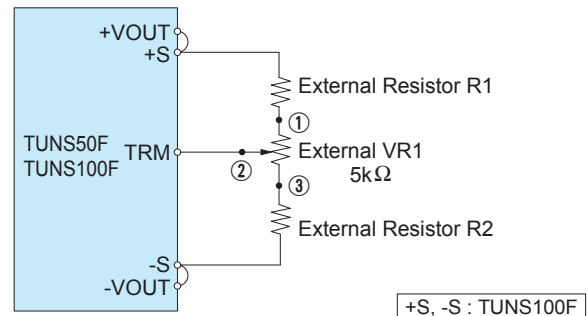

Fig. 3.3 Connecting External Devices (TUNS50F/TUNS100F)
■Output voltage can be adjusted by connecting an external potentiometer (VR1) and resistors (R1 and R2) as shown in Fig. 3.3.